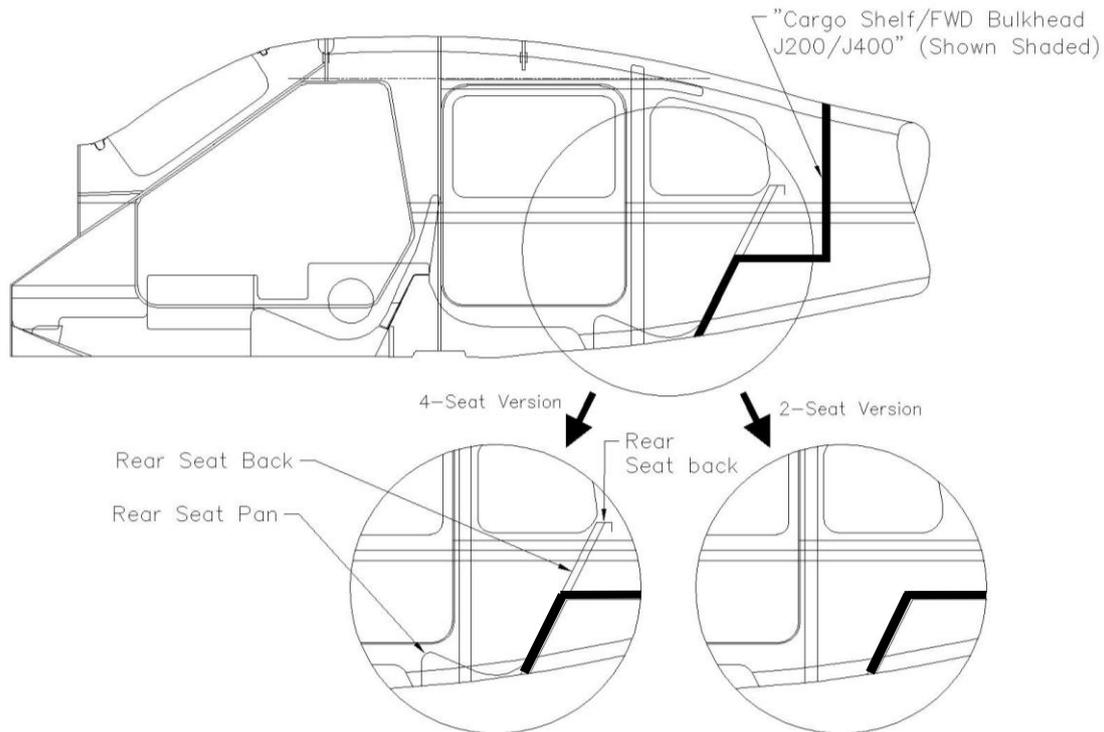

Figure 1 - Differences
- iii. Rear seat belts (2)
- iv. Rear seat belt hardpoints (6)
- i. Rear Seat Belts (2)
- Figure 1 below shows a schematic side-view drawing of the 1153023 fuselage. On it are shown the rear seat pan and rear seat back.
- **Note:** Figure 1 also shows the “Cargo Shelf/FWD Bulkhead J200/J400”. This part is primary structure and must not be removed or modified.